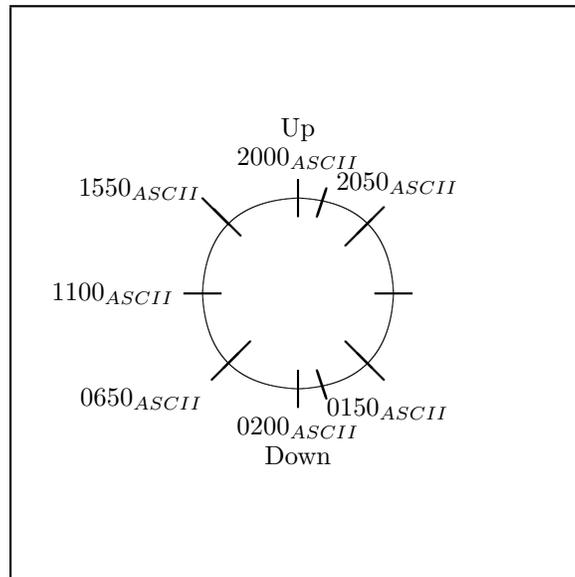

Figure 5: Cohu iDome Tilt Readout Positions, ASCII values[intro:cohutiltreadoutshei]
- 2.3.1. In Figure 5, page 26 are the ASCII values that apply as a camera is tilted.